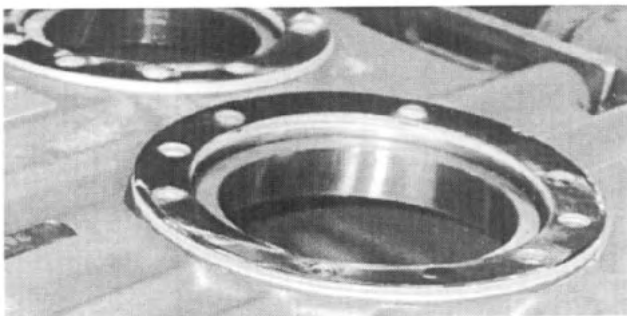

Fig. 59
2. Place the stack of shims, removed during disassembly, on the intermediate and rear output shaft bores of the transfer case housing. *See Fig. 59.*